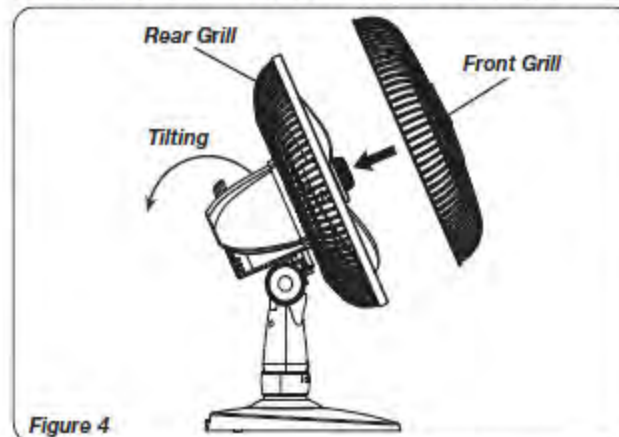

Figure 4
- With Fan Head tilted back and centered, align *Ornament* of *Front Grill* so it is horizontal. Insert bottom of *Front Grill* into *Rear Grill*. Tab at the bottom of *Rear Grill* should be between two Spokes of *Front Grill*. Snap *Front* into *Rear* beginning at the top and working down both sides. **NO GRILL CLIPS ARE NEEDED FOR ASSEMBLY.** (Figure 4)
TILTING: This Fan is equipped with a multi-angle Fan Head for whole-room air circulation. Follow the steps below to properly adjust the "tilt angle" of your Fan. (Figure 4)